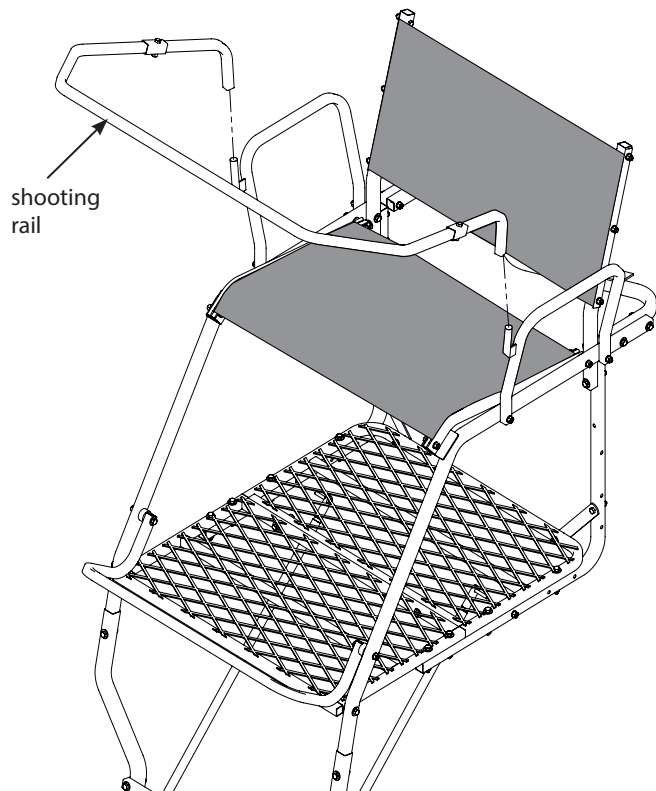

Figure 21
18. a. Attach the removable shooting rail by setting rail down over studs provided on armrests. **SEE FIGURE 21. Lubrication is recommended to prevent binding and noise.**
b. Attach the (2) provided 9" and (1) provided 47" camo foam pads to the armrests and shooting rail by wrapping around tubing and attaching Velcro together.